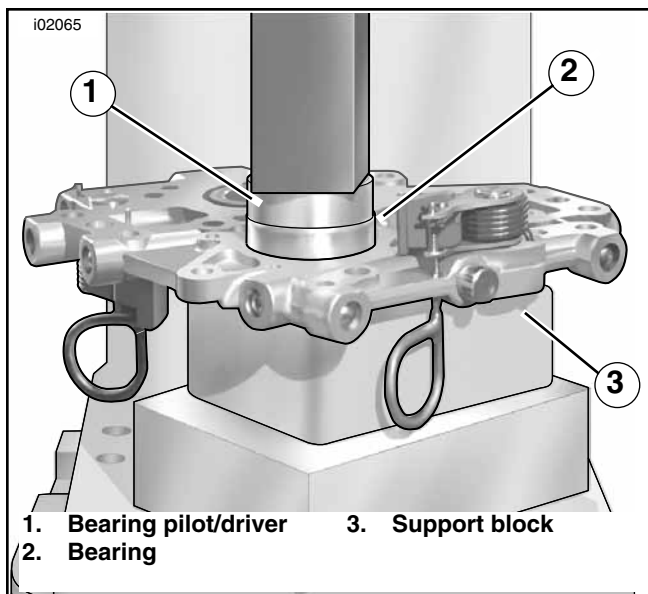

Figure 5. Press Bearings into Cam Support Plate
- d. See Figure 5. Center bearing driver (1) under ram of arbor press. Press on driver until bearing (2) makes firm contact with counterbore in cam support plate. Repeat steps to install second bearing.
5. Place cam support plate back on support block (3), if removed. The block properly supports inner races of bearings as camshafts are installed.